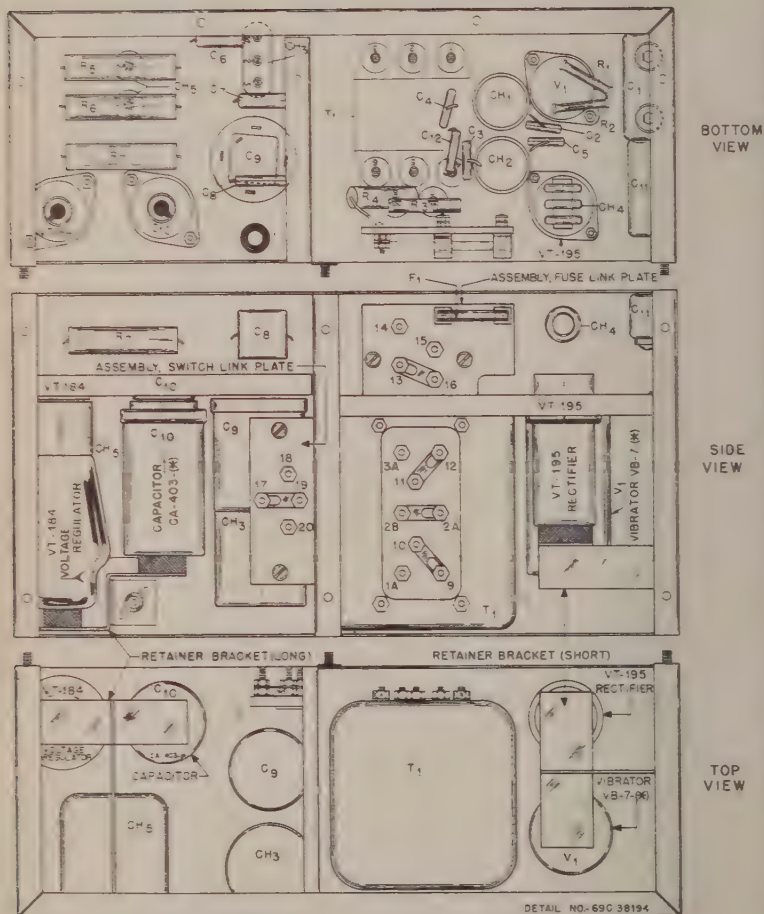

Figure 11. Plate Supply Unit PE-117-C. - Parts Location Detail
(4) Located in Plate Supply Unit PE-117-C on the power pack chassis, are five items that may need replacement from time to time. These are Fuse F₁ (6 ampere), Vibrator VB-7-(*), rectifier Tube VT-195, voltage regulator Tube VT-184 and electrolytic Capacitor CA-403-(*). These can be identified in figure 11. All of these items plug into suitable sockets or receptacles on the power pack, and in all cases, socket arrangements are such that no error can be made when inserting the replacement. Spares for all items except the rectifier Tube VT-195, and voltage regulator Tube VT-184, are carried in suitable clips right inside Plate Supply Unit PE-117-C. Two spare rectifier Tubes VT-195, and voltage regulator Tubes VT-184, are supplied in the replacement tube kit. When defective, any of these components may be removed by pulling them from their sockets. The replacement should be inserted so that the pins line up properly with the socket holes, and it should be pushed down firmly to assure good contact.